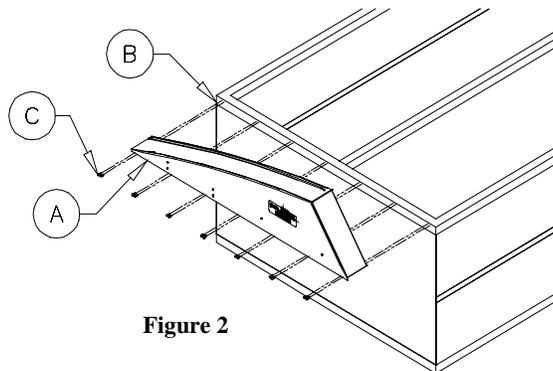

Figure 2
(See Figure 2)
Procedure: Center the rear hood on the rear wall of the box with the lower 1 inch flange (A) positioned flush against the outside rear edge of the box. Using a 3/16" drill bit, drill 14 holes through the 1 inch flange and into the box wall (B) placing 2 holes at approximately every 15 inches (see Figure 2). Secure the rear hood using the 1/4"x1" lag screws provided (C).